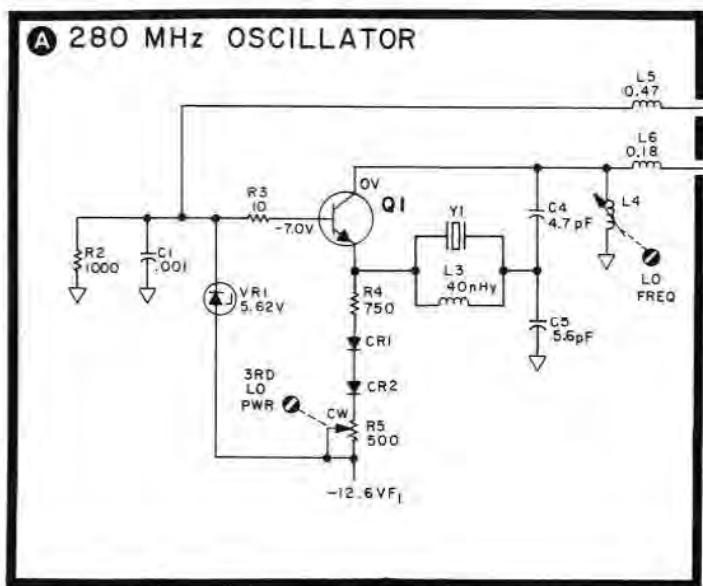

FIGURE 7-8. P/O A9 THIRD CONVERTER AND A10 SECOND IF ASSEMBLIES, SCHEMATIC DIAGRAM (2118A & BELOW)
Replace function block (A) with function block (A) shown in Figure 7-8 (2118A & BELOW) included in this Manual Backdating supplement.